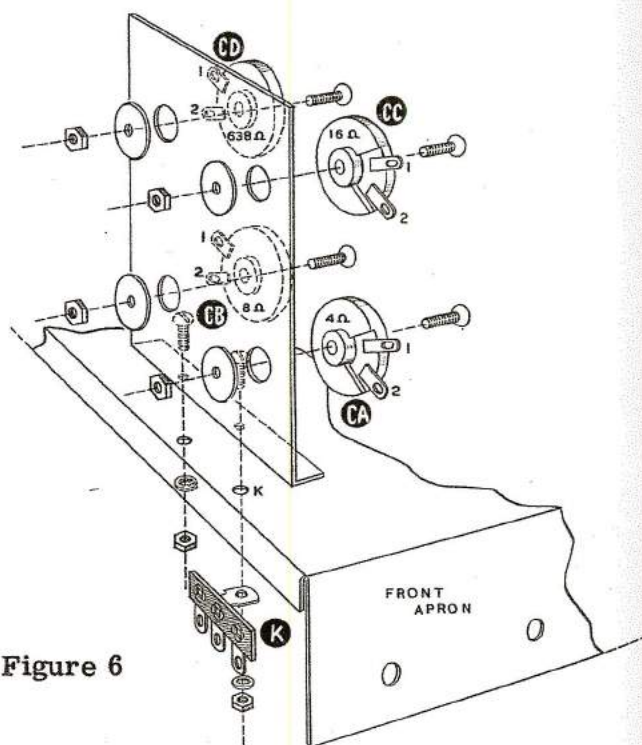

Figure 6
- (✓) Mount four power resistors on the bracket as shown in Figure 6. A 10-32 flat head screw goes through each resistor, the bracket, a large washer and 10-32 nut. Note that the resistors mount inside the bracket. Place the 4 Ω unit at CA, 8 Ω at CB, 16 Ω at CC and 638 Ω at CD. Bend the resistor lugs back slightly to prevent shorting to the bracket.